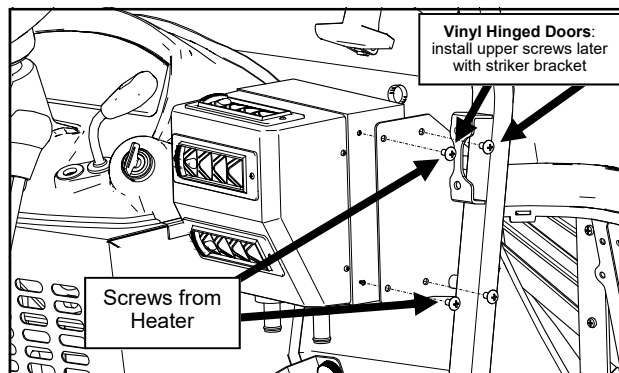

Fig. 17.2 (Install Heater)
17.2 Attach the heater to the heater bracket using the screws already installed on the side of the heater. See Figure 17.2. **Steel Doors or vinyl curtain doors:** Tighten hardware. **Vinyl hinged doors only:** Do not install the upper two screws into the heater. Leave the lower screws loose. See step 18.4 below.